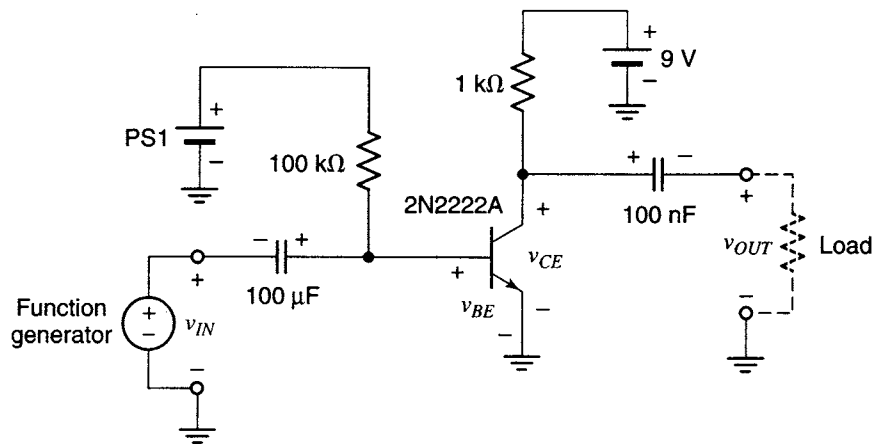

Figure 5. AC transistor amplifier
11. To couple the small signal across base-emitter and to couple the resulting v_{CE} variation to an external device without disturbing the DC bias values set in step 10, use two coupling capacitors² as shown in Fig. 5. **If a polarity is indicated on the capacitors, make sure you connect them as indicated.** The load indicated as a resistor by a broken line is anything connected to the output, for example, a scope probe (the latter has a very large resistance value, so it will not appreciably affect the operation of the circuit). Measure the base-emitter and collector-emitter voltages again to make sure that they were not inadvertently changed.